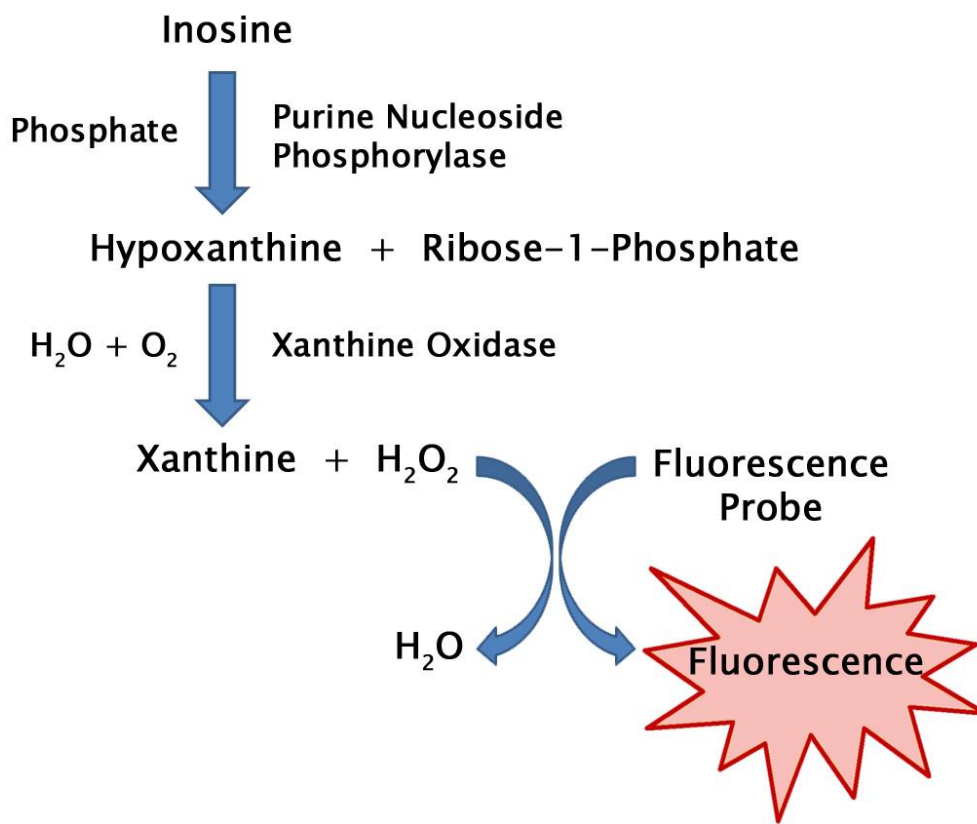

Figure 1. Inosine Assay Principle.
Cell Biolabs' Inosine Assay Kit measures free inosine within biological samples. Inosine is converted into hypoxanthine by purine nucleoside phosphorylase (PNP). Then hypoxanthine is converted to xanthine and hydrogen peroxide by xanthine oxidase (XO). The resulting hydrogen peroxide is then detected with a highly specific fluorometric probe. Horseradish peroxidase catalyzes the reaction between the probe and hydrogen peroxide, which bind in a 1:1 ratio. Samples are compared to a known concentration of inosine standard within the 96-well microtiter plate format. Samples and standards are incubated for 15 minutes and then read with a standard 96-well fluorometric plate reader (Figure 1).